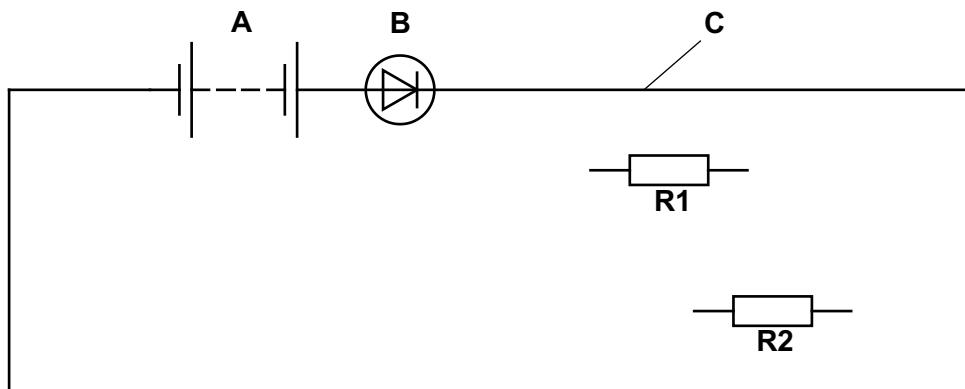

Fig. 8.1
- 8 Fig. 8.1 shows part of a circuit diagram.
- (b) Draw on Fig. 8.1 to show **R1** and **R2** connected in parallel to the supply voltage.